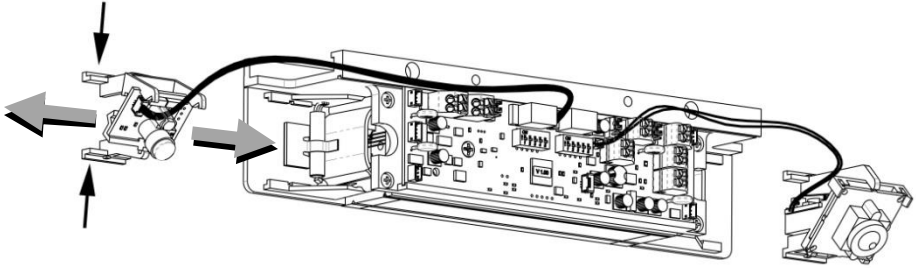

Figure 2. Removing and Installing a Module
1. To remove or install a module, COMPRESS the legs of the support bracket and SLIDE the module bracket in or out of the retaining rails (see Figure 2, “Removing and Installing a Module”).